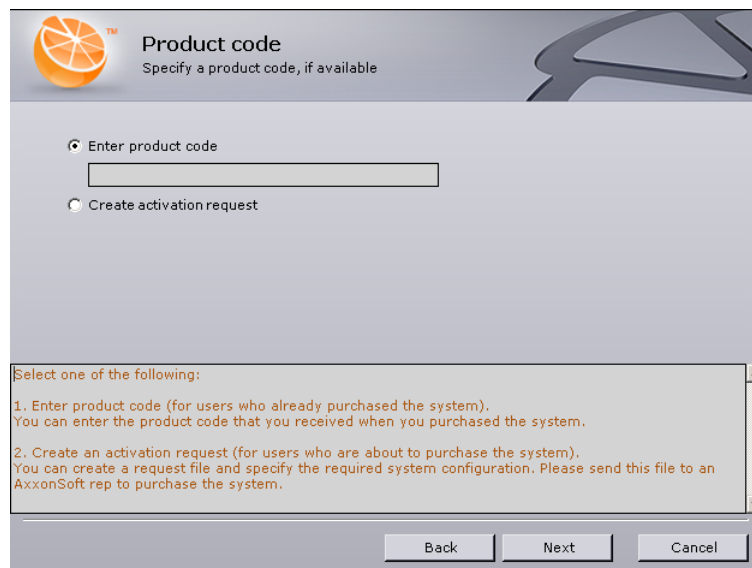

Fig. 4.7—5 Entering the product code
7. Click the **Next** button. The **Activation request** dialog box will then appear. Select the desired method for sending the request (Fig. 4.7—6):